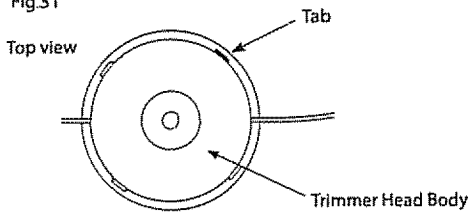

Fig.32
2. Depress tab and twist trimmer head body CW to disassemble (Fig. 32).